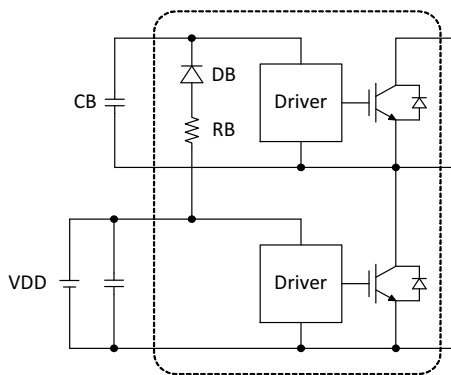

Figure 20. Bootstrap Circuit
- VB(U)** The VB(x) pins are internally connected to the positive supply of the high-side drivers. The supply needs to be floating and electrically isolated. The bootstrap circuit shown in Figure 20 forms this power supply individually for every phase. Due to integrated boot resistor and diode (RB & DB) only an external boot capacitor (CB) is required.